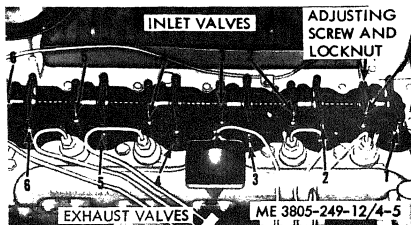

Figure 4-5. Valve lash adjustment.
(1) Loosen the adjusting screw locknut (fig. 4-5).